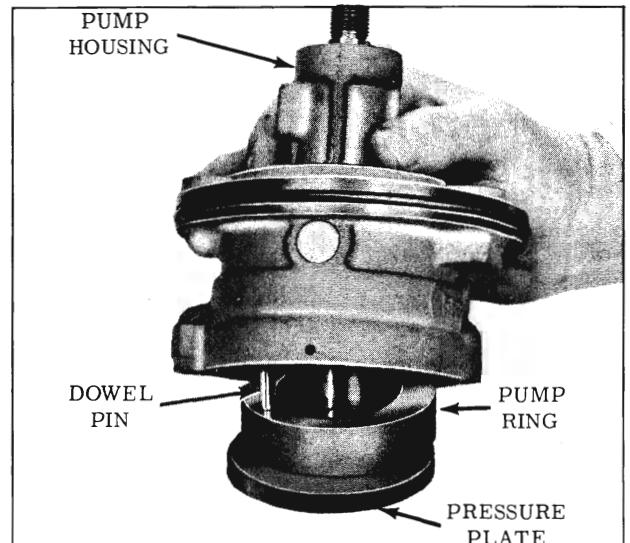

Fig. 4-234 Removing Pump Rings and Vanes
9. Remove pressure plate, pump ring and vanes, being careful not to drop parts. (Fig. 4-234)